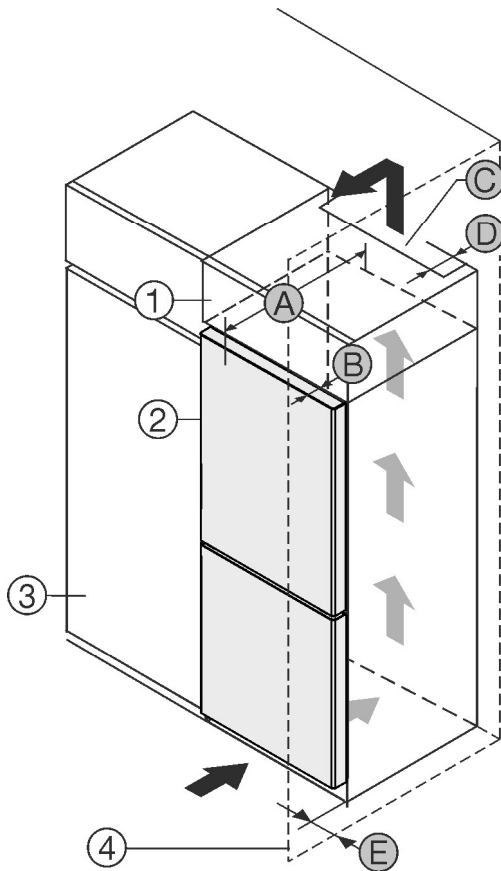

Fig. 1
- (1) Top cupboard \*
- (2) Appliance \*
- (3) Kitchen cabinet \*
- (4) Wall \*
- (A) Appliance depth \*
- (B) Door depth \*
- (C) Ventilation cross-section \*
- (D) Distance to the rear of the appliance \*
- (E) Distance to the side of the appliance \*
You can place the appliance directly beside the kitchen cabinet Fig. 1 (3).\*
There must be a ventilation shaft at the depth Fig. 1 (D) of the back of the top cupboard over the entire width of the top cupboard.\*
The cross section of the ventilation gap Fig. 1 (C) must be maintained below the ceiling.\*
If the appliance is set up with the hinges next to a wall Fig. 1 (4), the distance between the appliance and the wall must be at least 13 mm (1/2 in) .\*
If the appliance is set up with the hinges next to a wall Fig. 1 (4), the distance between the appliance and the wall must be at least 20 mm (13/16 in) .\*
In order to be able to fully open the door, the appliance must protrude by the depth of the door Fig. 1 (B) from the front of the kitchen cabinets Fig. 1 (3) and use of wall spaces, the appliance can protrude further.\*